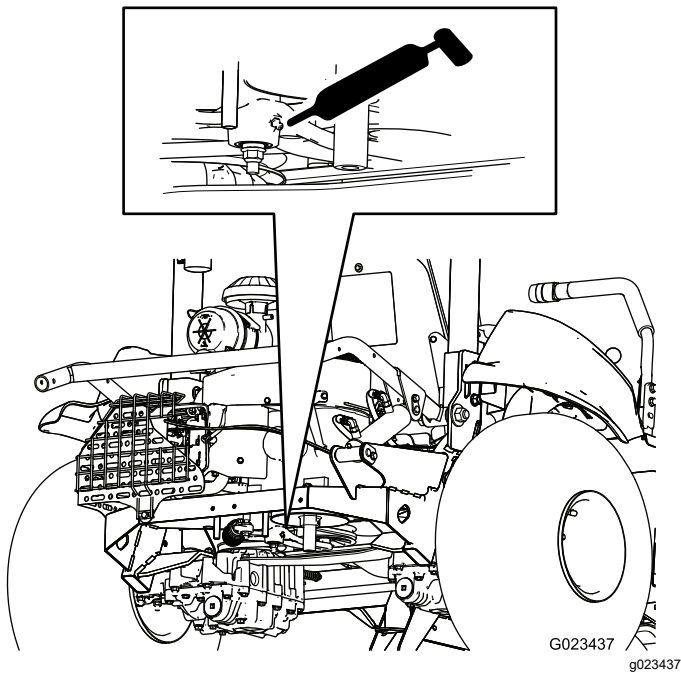

Figure 30
- Belt tensioner (1)—Figure 30